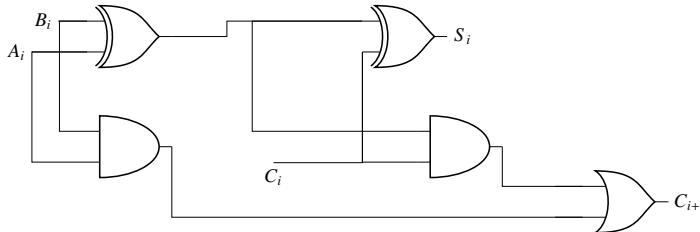

Fig. 3.27: Full Adder
44. Fig. 3.27 shows the  $i$ th full-adder block of a binary adder circuit.  $C_i$  is the input carry and  $C_{i+1}$  is the output carry of the circuit. Assume that each logic gate has a delay of 2 nanosecond, with no additional time delay due to the interconnecting wires. If the inputs  $A_i, B_i$ ; are available and stable throughout the carry propagation, the maximum time taken for an input  $C_i$ , to produce a steady-state output  $C_{i+1}$  is \_\_\_\_\_ nanosecond. (GATE-IN2019,22)